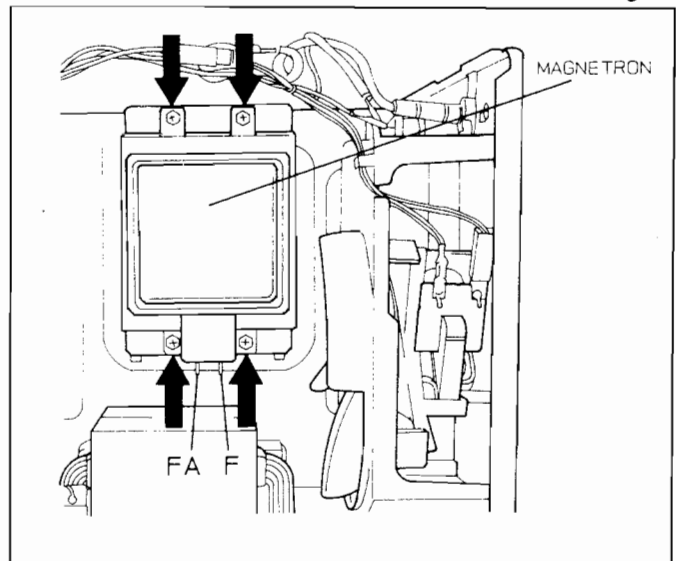

Fig. 15
- (A) Discharge the high voltage capacitor. (see page 10)
- (B) Remove 2 screws holding magnetron thermal cutout. (Fig. 15)
- (C) Remove 1 screw holding air guide A. (Fig. 15)
- (D) Disconnect 2 high voltage lead wires from magnetron filament terminals (Fig. 15)
- (E) Remove 4 screws holding the magnetron. (Fig. 15)
When connecting 2 filament lead wires to the magnetron terminals, be sure to connect the lead wires in the correct position. The lead wire of high voltage transformer should be connected to "FA terminal" and the lead wire from high voltage capacitor should be connected to "F terminal". (See Fig. 15)